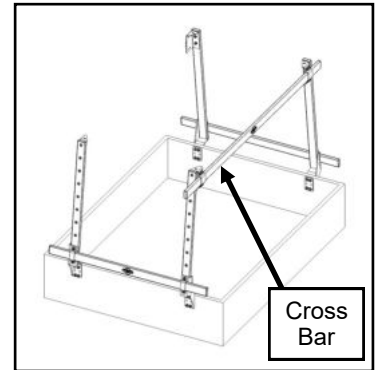

Fig. 6
6. See fig. 6. Using the cross bar tube clamps (4 holes), install a cross bar (ref.: 68" long tube) from left to right onto the cross bar mounting brackets.